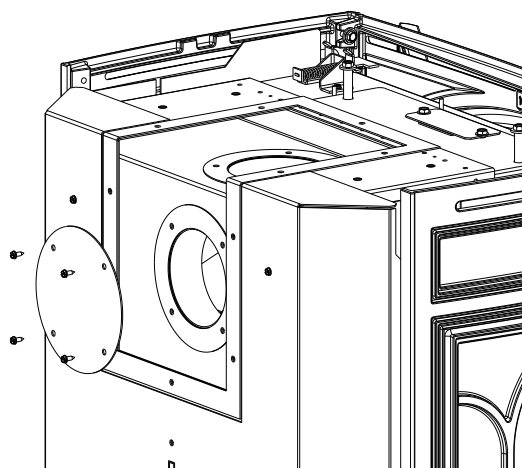

Figure 4. Remove cover plate from rear outlet.
2. Remove four screws on the rear exhaust cover plate and re-install the cover plate over the top outlet. Figs. 4 and 5.